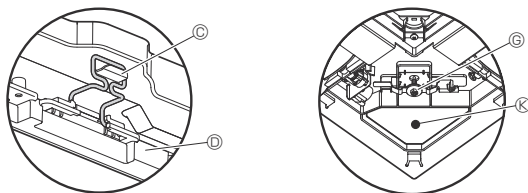

Fig. 7-7
- After tightening the screw, confirm that the two grille hooks (Fig. 7-7) are latched onto the hooks on the main unit.